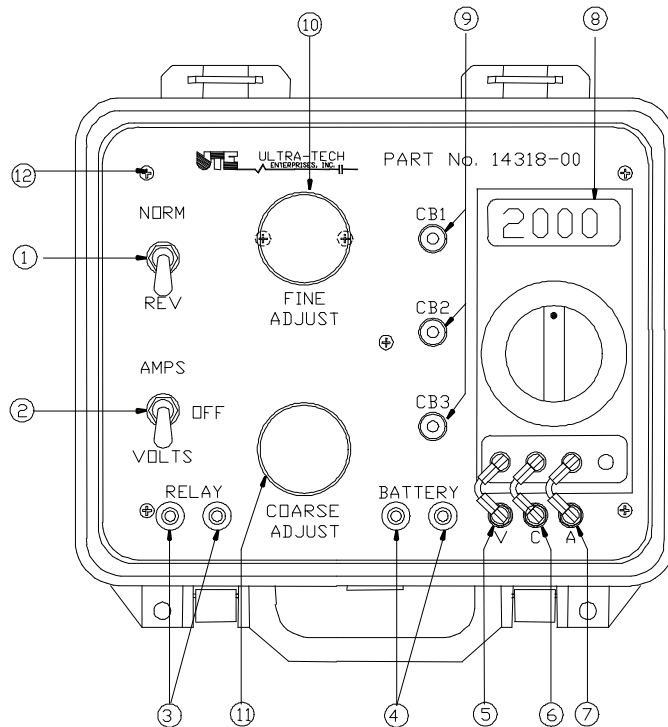

Figure 1
The front panel controls are illustrated in figure 1 and are described as follows:
1. Disconnect all cables from the battery terminal, relay terminals, and the three (3) meter jumper leads, and place the Amps/Off/Volts switch in the OFF position. Turn the meter off.
2. Remove the five countersunk screws from the front panel (see figure 1, reference #12).
4. Removed the two (2) nylon lock nuts from the meter bracket (the bracket opposite the three (3) banana jacks) and remove the bracket.
7. Replace the meter in the relay tester panel, re-install the meter bracket, and replace the two (2) nylon lock nuts.
8. Replace the front panel and fasten down with the five (5) Phillips head screws.